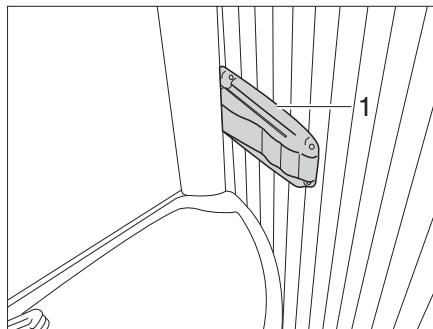

Fig. 293 Vario toilet, locking the shower wall
- Push the latch (Fig. 293,1) right on the edge of the wash basin and lightly pull the wash basin. The wash basin moves forwards with the rear wall.